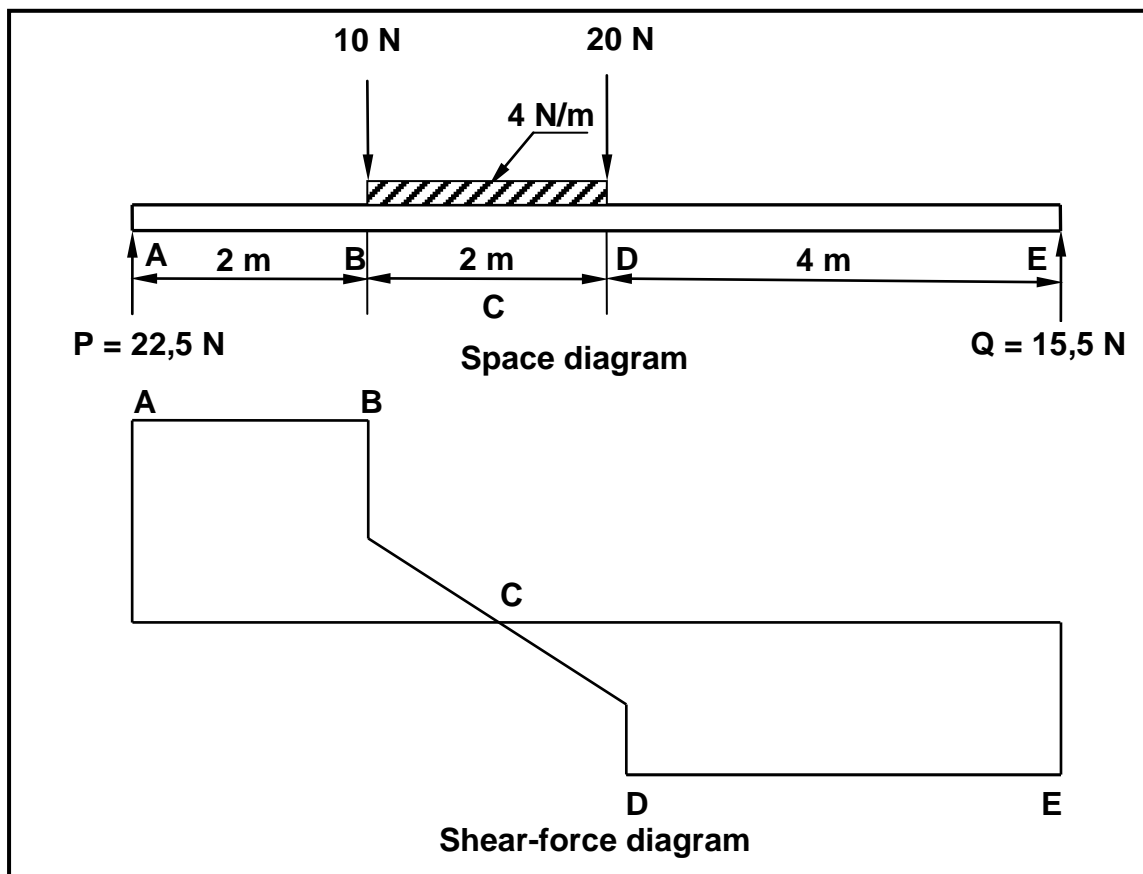

FIGURE 5.1
- 5.1 FIGURE 5.1 below shows the space and shear-force diagrams of a beam with a span of 8 m with two point loads and a uniformly distributed load. Analyse the diagrams and answer the following questions.